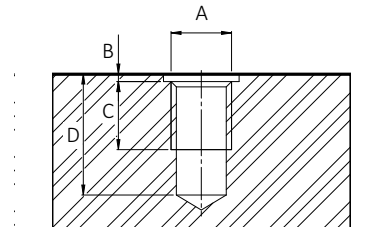

Figure 63: Front mounting threads for all Goldeye models
1. Mount the camera to the base using suitable M4 screws at 3.4 Nm maximum torque for a thread engagement (C) of 7 mm between screws and mounting threads, see Figure 63. For details, see your model's technical drawings.